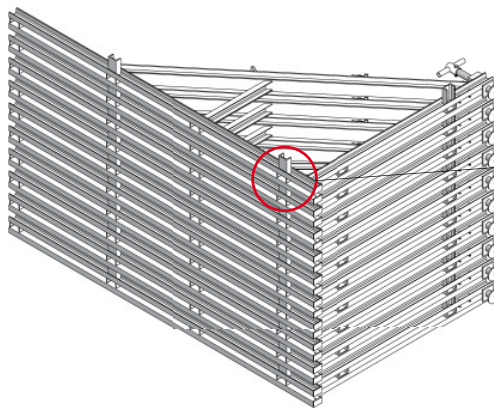

Fig. 22.2
Ten (10) support frames can be stacked. To facilitate stacking the frames are equipped with a welded-on stacking device (Fig. 22.2 and 22.3).